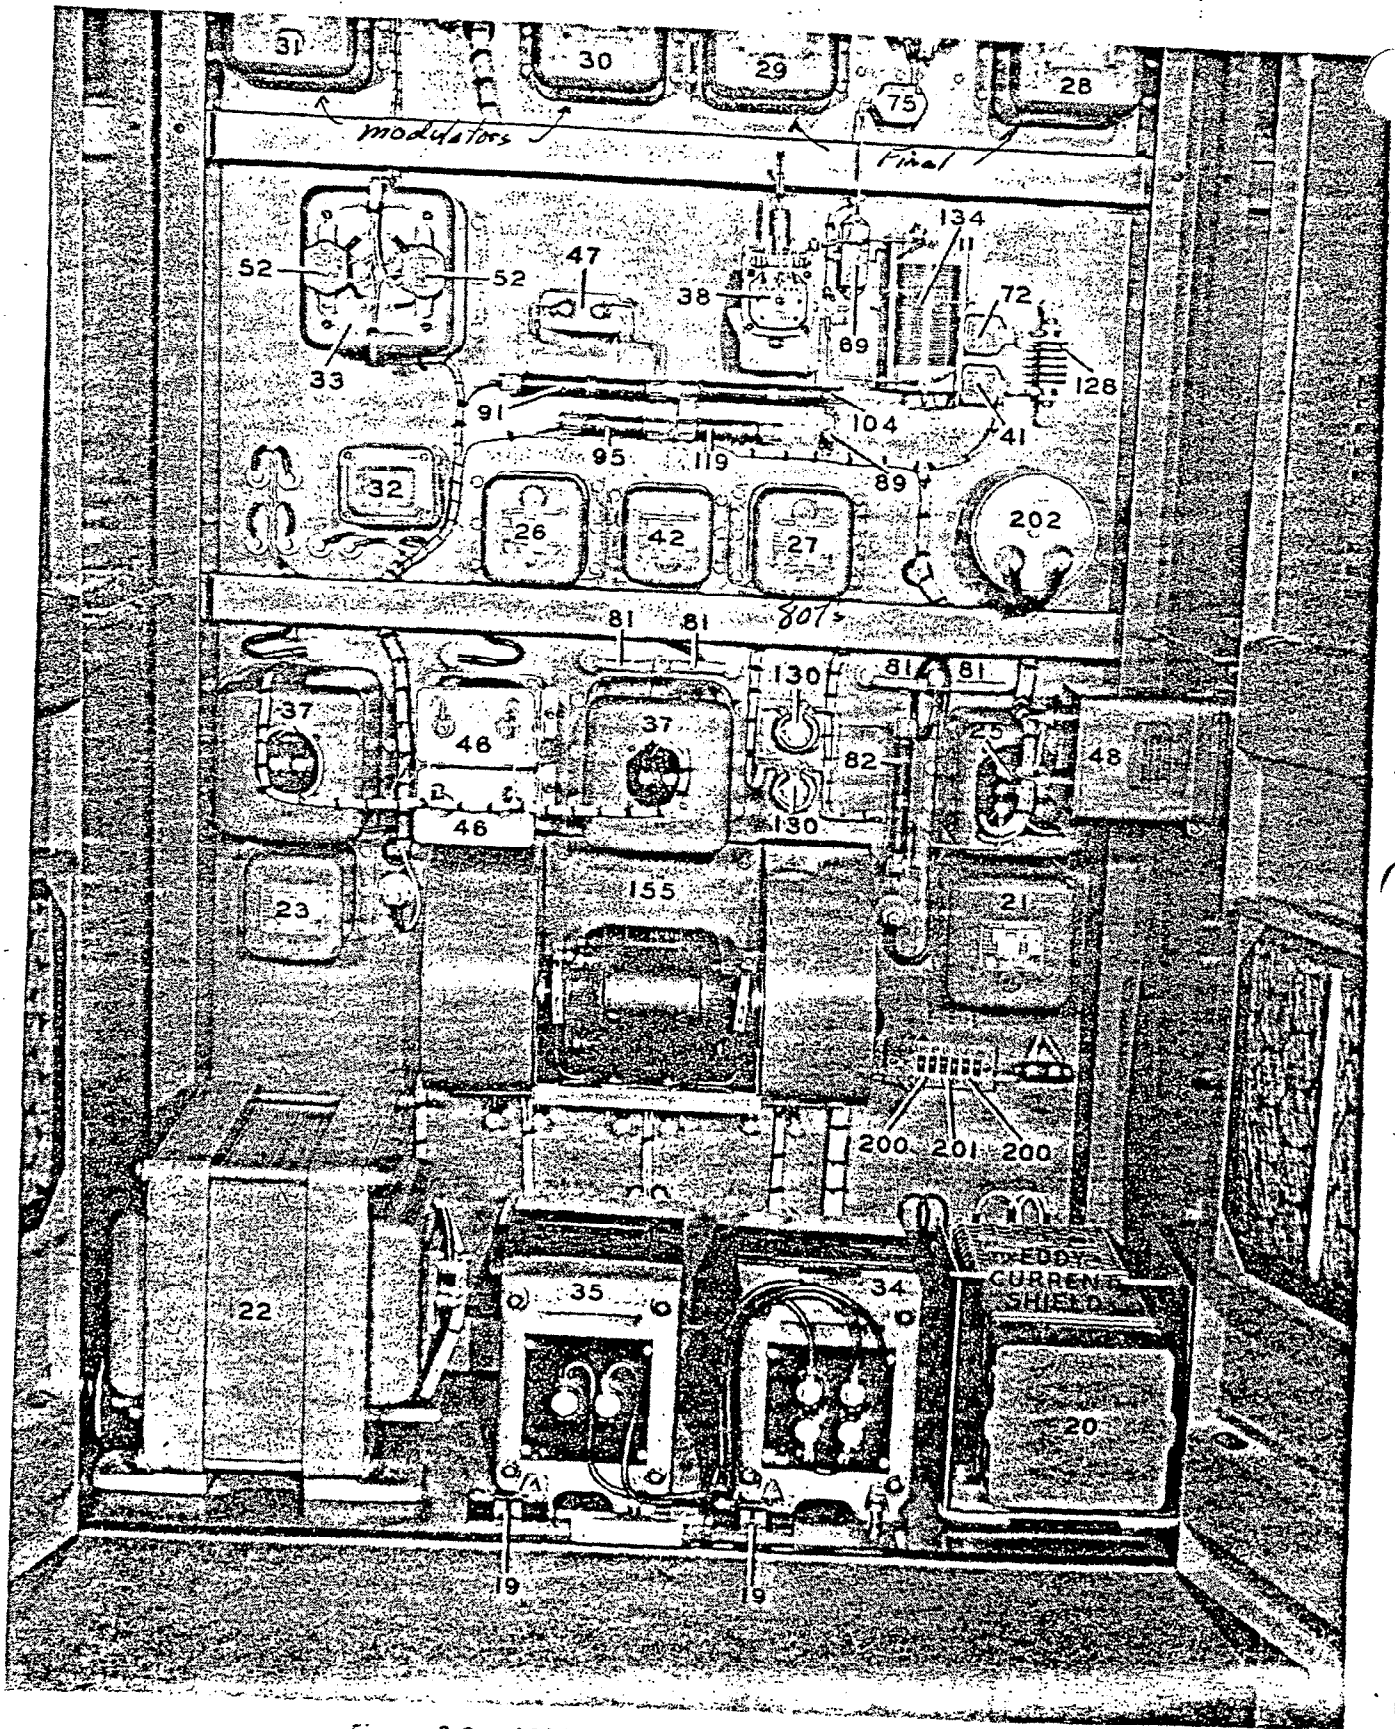

Figure 3-3. 300G Transmitter - Bottom Rear View
1. Place the Tune-Meter Selector switch in the 807 Plate position and operate the Tuning Control. The cathode current will dip sharply when the point of resonance is reached. If the point of resonance cannot be found it will be necessary to change the tap on the inductor, Item 134, (refer to figure 3-3 for location of the inductor).